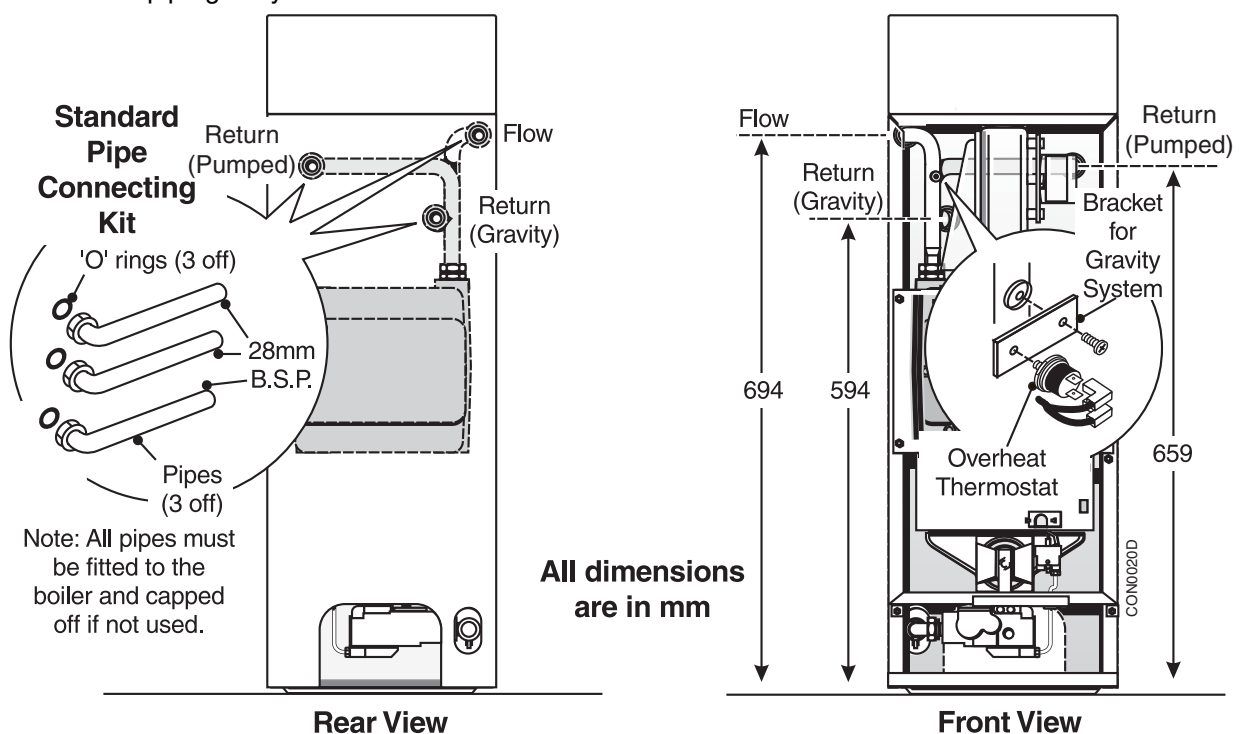

Fig. 19
- 3 On Gravity DHW systems check that the overheat thermostat is fitted correctly. See Fig. 19, page 19. ☐